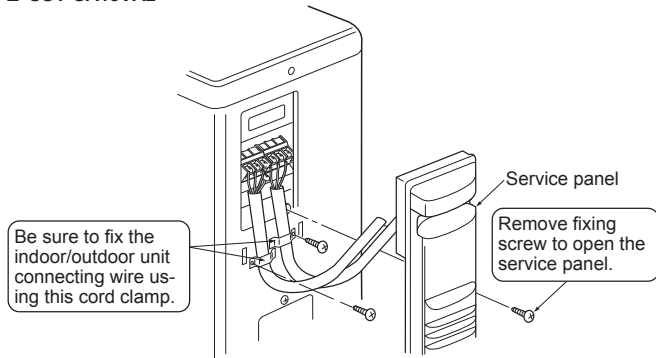

Fig. 5-3
5.1. Outdoor unit (Fig. 5-1, Fig. 5-2, Fig. 5-3, Fig. 5-4)
- ① Remove the service panel.
- ② Wire the cables referring to the Fig. 5-1, Fig. 5-2, Fig. 5-3 and the Fig. 5-4.